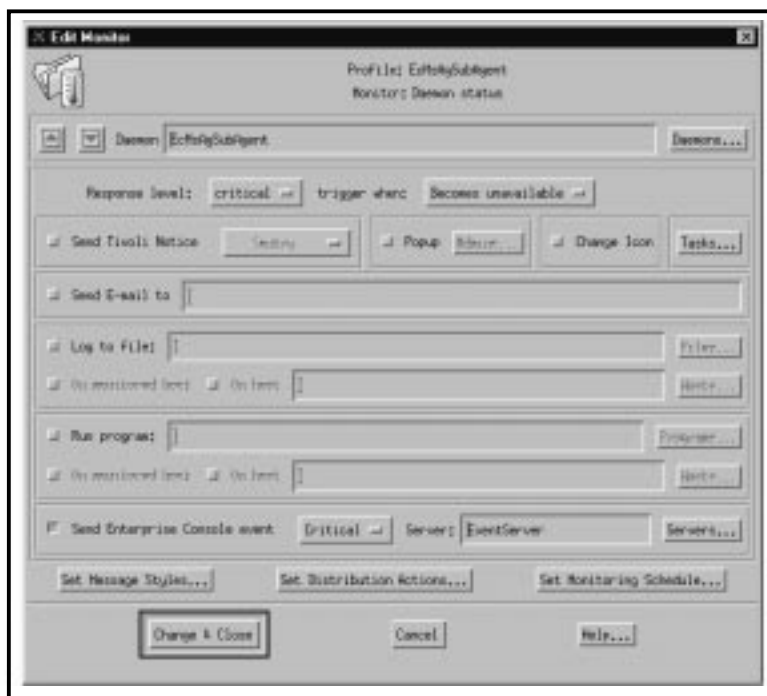

Figure 13. Daemon Monitor Profile Edit Page
An example of a monitor profile is shown in Figure 13. It is the profile edit screen establishing a Daemon Monitor on the VATC host t1msh01.
- 4 Double-click on any specific Profile Monitor icon to determine profile characteristics (Figure 13).
The user interface for XRP-II is a Character User Interface (CHUI). The various screens are accessible through navigation of a hierarchical menu structure. Figure 18 illustrates that structure for ILM. Data concerning maintenance actions can be added, modified, or deleted by selecting an appropriate data entry screen from the Maintenance Menu. Data entry screens permit modification of the master file (or catalog) that describes maintenance actions individually. Each screen accesses a particular set of records and contains a unique set of fields corresponding to an item's class. All screens function in essentially the same way, and use bottom-line commands such as those shown in the **Work Order Entry** screen illustrated in Figure 13. A bottom-line command is executed by typing its first letter, or, in the case of those preceded by a slash (/), by typing the slash and the first letter.